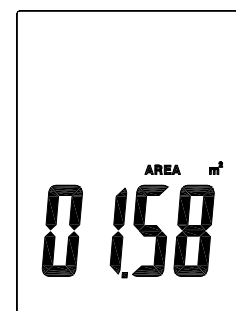

Fig.3
3. Press or to scroll to unit that you want to change((refer Fig.3).
Press button, the area number flashes. Press or to scroll to digit that you want to change (refer Fig.3).